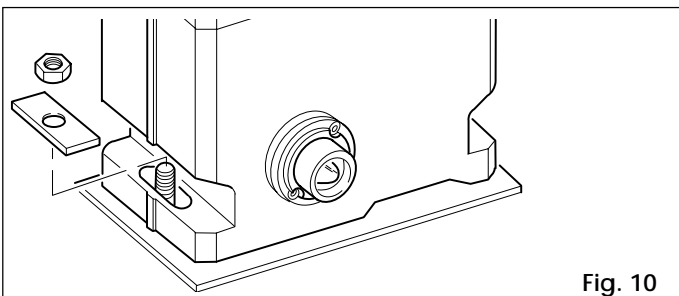

Fig. 10
- 4) Secure the gear motor onto the base plate using the two nuts and the plates provided as shown in Fig. 10.